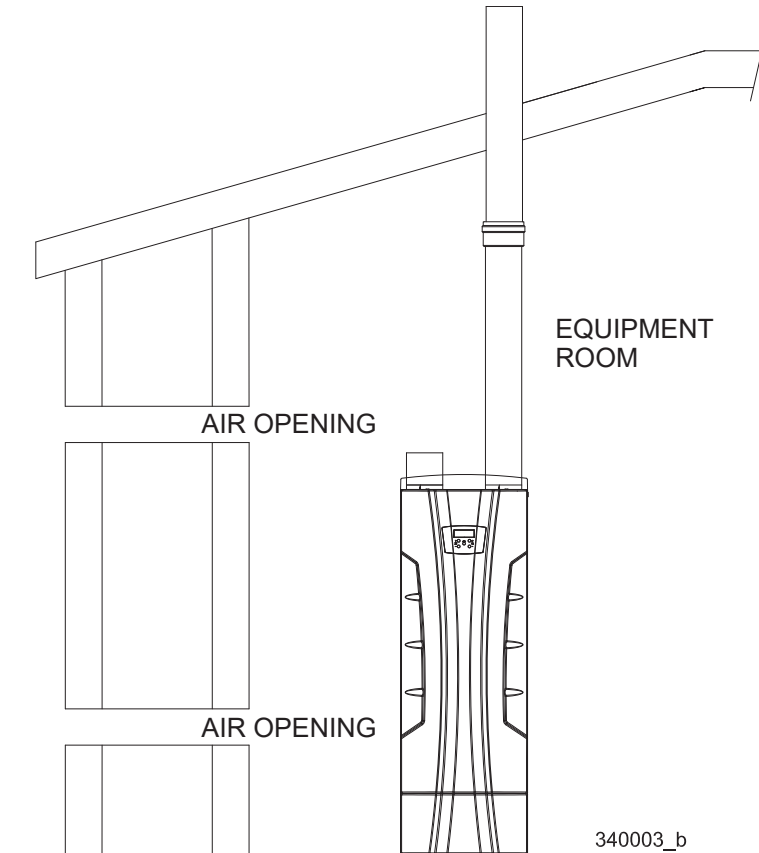

Figure 5-2 Combustion Air through Ducts
2.- If combustion and ventilation air is taken from the outdoors using a duct to deliver the air to the equipment room, each of the two openings should be sized based on a minimum free area of one square inch per 2000 Btu/hr (11 cm² per kW) of input (see Fig. 5-2).